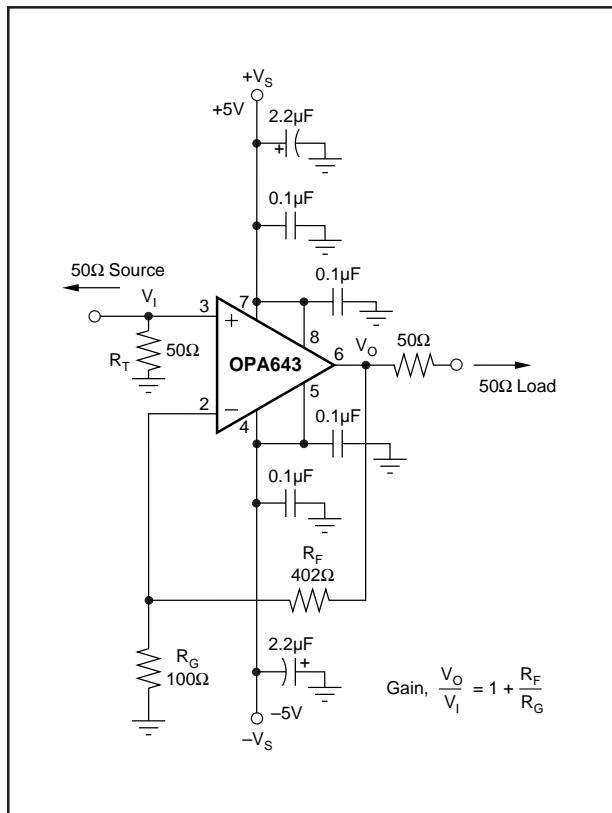

FIGURE 1. Gain of +5, High Frequency Application and Characterization Circuit (P or U Package).
The OPA643's combination of speed and dynamic range is easily achieved in a wide variety of application circuits, providing that simple guidelines common to all high speed amplifiers are observed. For example, good power supply decoupling, as shown in Figure 1, is essential to achieve the lowest possible harmonic distortion and smooth frequency response. Careful PC board layout and component selection will maximize the performance of the OPA643 in all applications, as discussed in the remaining sections of this data sheet.
Figure 1 shows the gain of +5 configuration used as the basis for most of the Typical Performance Curves. Most of the curves were characterized using signal sources with  $50\Omega$  driving impedance, and with measurement equipment presenting  $50\Omega$  load impedance. In Figure 1, the  $50\Omega$  shunt resistor at the  $V_I$  terminal matches the source impedance of the test generator, while the  $50\Omega$  series resistor at the  $V_O$  terminal provides a matching resistor for the measurement equipment load. Generally, data sheet specifications refer to the voltage swing at the output pin ( $V_O$  in Figure 1). The total  $100\Omega$  load from the series and shunt matching resistors, combined with the  $502\Omega$  total feedback network load, presents the OPA643 with an effective output load of approximately  $83\Omega$ .
To deliver the lowest possible distortion using the 8-pin SO-8 or DIP package, additional  $0.1\mu F$  power supply decoupling capacitors on pins 5 and 8 are required. These are shown in Figure 1. Although pins 5 and 8 are internally connected to pins 4 and 7 respectively (the standard supply pins for 8-pin op amps), the additional capacitors help to decouple the package lead inductances and decrease the second-harmonic distortion for a 5MHz fundamental by approximately 4dB. The much shorter bond wires and supply leads of the SOT23-5 package give the best distortion performance while requiring only two power supply connections.
Since the OPA643 is a voltage feedback op amp, a wide range of resistor values may be used for the feedback and gain setting resistors ( $R_F$  and  $R_G$  in Figure 1). The primary limits to these values are set by dynamic range (noise and distortion) and parasitic capacitive considerations. Usually, the feedback resistor value should be between  $200\Omega$  and  $1\text{k}\Omega$ . Below  $200\Omega$ , the feedback network will present additional output loading which can degrade the harmonic distortion performance of the OPA643. Above  $1\text{k}\Omega$ , the typical parasitic capacitance (approximately  $0.2\text{pF}$ ) across the feedback resistor may cause unintentional band-limiting in the amplifier response.
A good rule of thumb is to target the parallel combination of  $R_F$  and  $R_G$  (Figure 1) to be less than about  $200\Omega$ . The combined impedance  $R_F \parallel R_G$  interacts with the inverting input capacitance, placing an additional pole in the feedback network and thus a zero in the forward response. Assuming a  $3\text{pF}$  total parasitic on the inverting node, holding  $R_F \parallel R_G < 200\Omega$  will keep this pole above 250MHz. By itself, this constraint implies that the feedback resistor  $R_F$  can increase to several  $\text{k}\Omega$  at high gains. This is acceptable as long as the pole formed by  $R_F$  and any parasitic capacitance appearing in parallel with it is kept out of the frequency range of interest. The exception to this is in wideband transimpedance applications as described earlier. There, a feedback pole is used to compensate for the zero formed by the input capacitance and the feedback resistor.
Generally, until the fundamental signal reaches very high frequencies or powers, the second harmonic will dominate the distortion with negligible third harmonic component. Focusing then on the second harmonic, increasing the load impedance improves distortion directly. Remember that the total load includes the feedback network—in the non-inverting configuration this is sum of  $R_F + R_G$ , while in the inverting configuration it is only  $R_F$  (Figure 1). Larger output voltage swings lead directly to increased harmonic distortion. A  $6dB$  increase in output voltage swing will generally increase the second harmonic by  $12dB$  and the third harmonic by  $18dB$ . Higher signal gain settings will also increase the second harmonic distortion. A  $6dB$  increase in voltage gain will raise the second and third harmonics by
Evaluating these two equations for the OPA643 component values shown in Figure 1 will give a total output spot noise voltage of  $13.3\text{nV}/\sqrt{\text{Hz}}$  and a total equivalent input spot noise voltage of  $2.7\text{nV}/\sqrt{\text{Hz}}$ .
Narrowband communications systems are more commonly concerned with the Noise Figure (NF) for the amplifier. The total input referred voltage noise expression (Equation 2 above), may be used to calculate the noise figure. Equation 3 shows the noise figure expression using the  $E_N$  of Equation 2 for the non-inverting configuration where the input termination resistor  $R_T$  has been set to match the  $50\Omega$  source impedance (as shown in Figure 1).
Evaluating Equation 3 for the circuit of Figure 1 gives a Noise Figure = 15.9dB. Input transformer coupling can be used to reduce this noise figure. A broadband pulse transformer can provide both a noiseless voltage gain and a more optimum source impedance to minimize the noise figure. Figure 9 shows an example built from the circuit of Figure 1, in which the transformer turns ratio has been set to the closest integer for minimum noise figure. This optimum turns ratio is calculated by:
The OPA643 provides excellent DC signal accuracy due to the combination of high open-loop gain, high common-mode rejection, high power supply rejection, low input offset voltage and low bias current offset errors. The high grade (B) version of any package type provides less than  $1.5\text{mV}$  input offset voltage. To take full advantage of this low input offset voltage, careful attention to input bias current cancellation is also required. The high speed input stage for the OPA643 has a relatively high input bias current ( $19\mu\text{A}$  typical into each input pin) but with a very close match between the two input currents—typically  $100\text{nA}$  input offset current. The total output offset voltage may be considerably reduced by matching the source resistances which appear at the two inputs. For example, one way to include bias current cancellation in the circuit of Figure 1 would be to insert a  $55\Omega$  series resistor into the non-inverting input after the  $50\Omega$  terminating resistor,  $R_T$ . When the  $50\Omega$  source resistor is DC coupled, this will increase the source resistance for the non-inverting input bias current to  $80\Omega$ . Since this is now equal to the resistance appearing at inverting input ( $R_F \parallel R_G$ ), the circuit will cancel the gains for the bias currents to the output, leaving only the offset current times the feedback resistor as a residual DC error term at the output. Using a  $402\Omega$  feedback resistor, this output error will now be less than  $3\mu\text{A} \cdot 402\Omega = 1.2\text{mV}$  over the full temperature range.
As a worst case example, compute the maximum  $T_J$  using an OPA643N (SOT23-5 package) in the circuit of Figure 1 operating at the maximum specified ambient temperature of  $+85^\circ\text{C}$ .  $P_D = 10\text{V} \cdot 26\text{mA} + 5^2 / (4 \cdot (100\Omega \parallel 502\Omega)) = 335\text{mW}$ . Maximum  $T_J = +85^\circ\text{C} + (0.335\Omega \cdot 150^\circ\text{C/W}) = 135^\circ\text{C}$ .